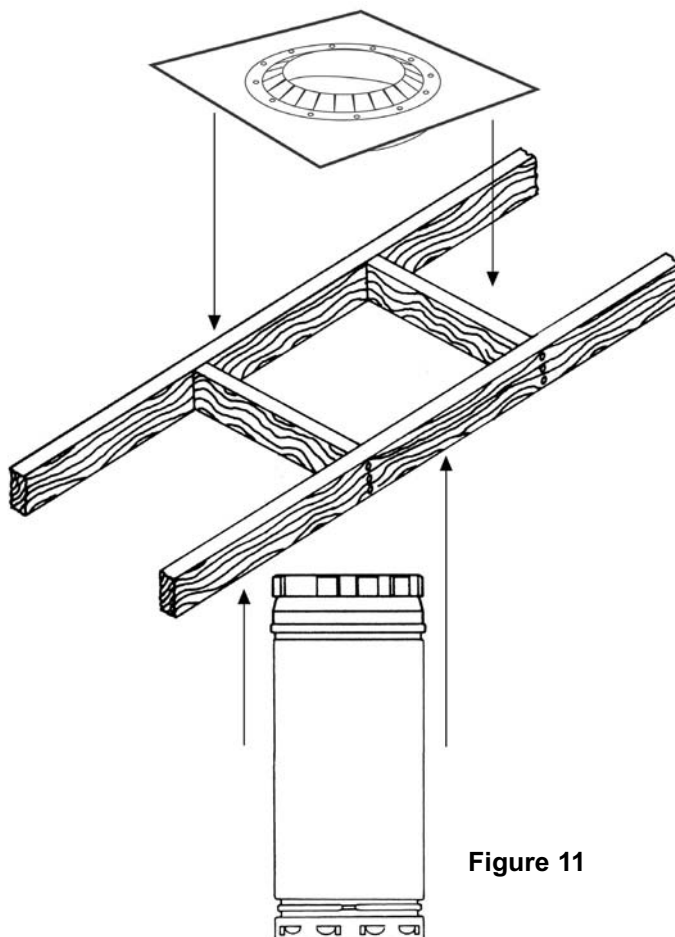

Figure 11
- Pipe should be inserted from below. A maximum of 30 feet of pipe may be installed above the support before resupport is required. See **Figure 11**.